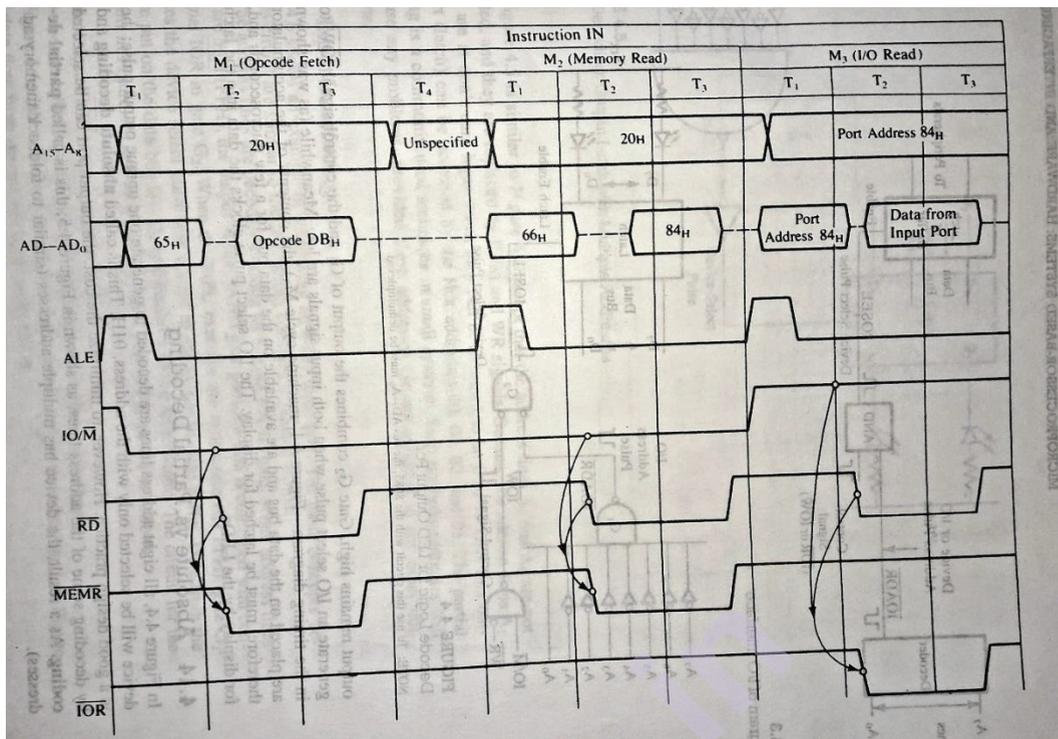

Figure 4.2:- 8085 Timing for Execution of IN Instruction
Machine cycles M₃ (Figure 4.2) is similar to the M₃ cycle of the OUT instruction; the only differences are (1) the control signal is \overline{RD} instead of \overline{WR} and (2) data flow from an input port to the accumulator rather than from the accumulator to an output port.